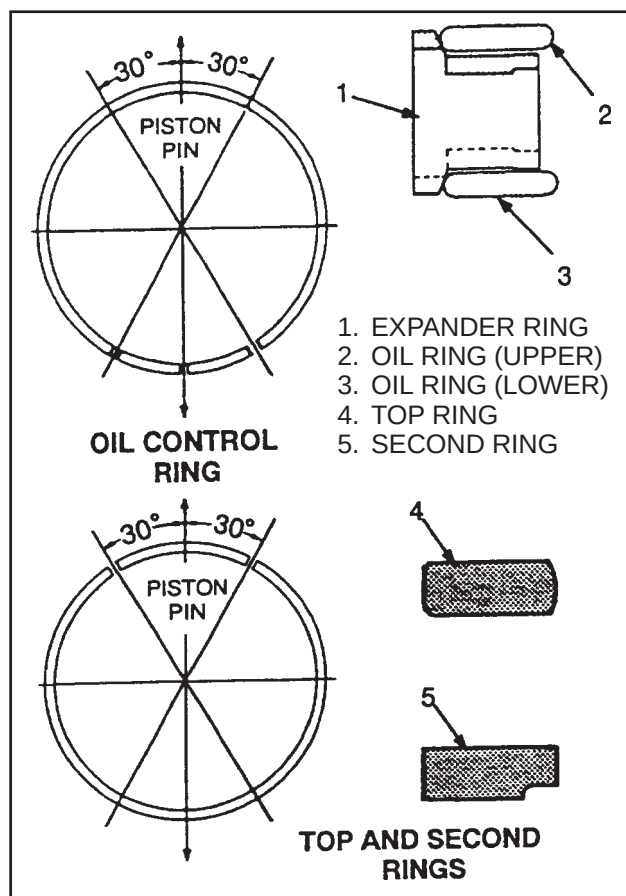

FIGURE 37. PISTON RINGS
2. Install the piston rings on the pistons. During installation, the writing on each piston ring must be toward the top of the piston. Check that the rings rotate freely, then put the ends of the rings in the positions shown in FIGURE 37. Make sure the ends of the upper and lower oil control rings are each 30° from the piston pin. Also make sure that the top and second rings are each 30° from the piston pin. Lubricate the rings with engine oil.